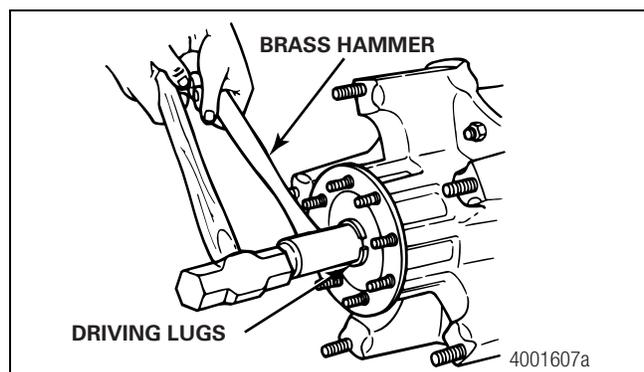
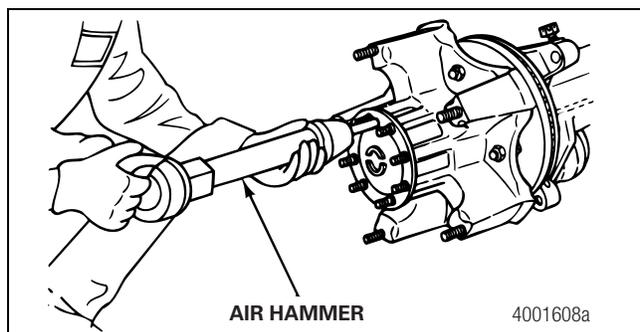

Figure 8.9
Figure 8.10
3. Follow the Brass Drift Method or the Air Hammer Method to loosen the axle shaft and tapered dowels. Figure 8.9 and Figure 8.10.